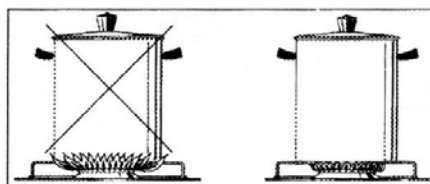

Fig. 12
- Use suitable pans for each burner (see tab. n° 4 and Fig. 12).